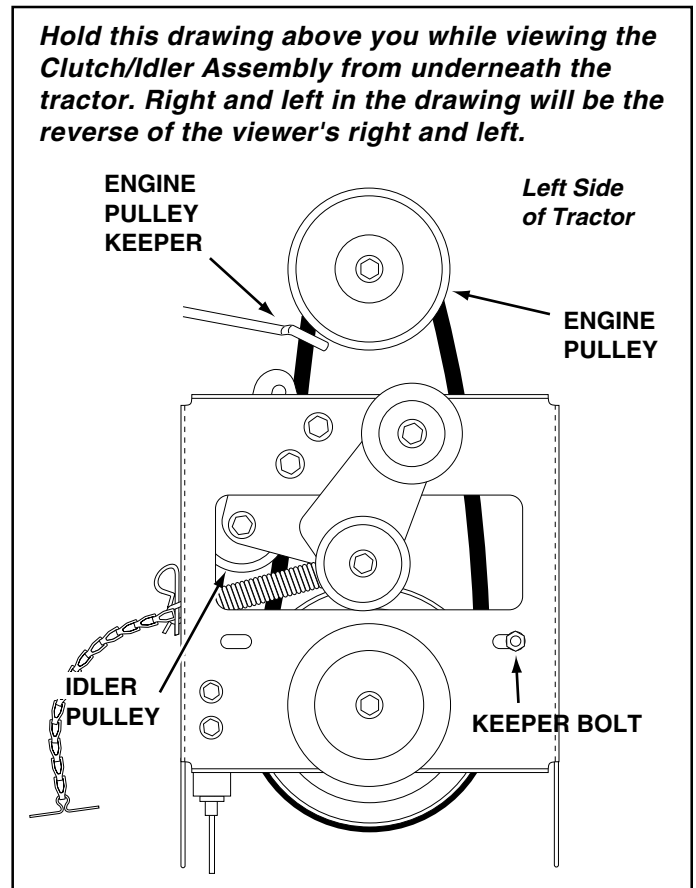

FIGURE 18
- Assemble the short "V" belt onto the engine pulley and then onto the large pulley on top of the clutch/idler assembly. The belt must be placed to the inside of the engine pulley keeper, the idler pulley and the keeper bolt located beside the large pulley. See figure 18.